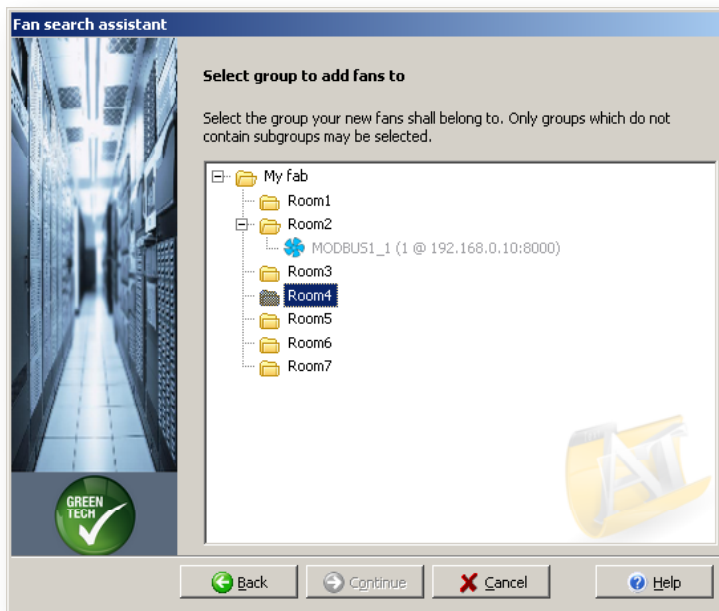
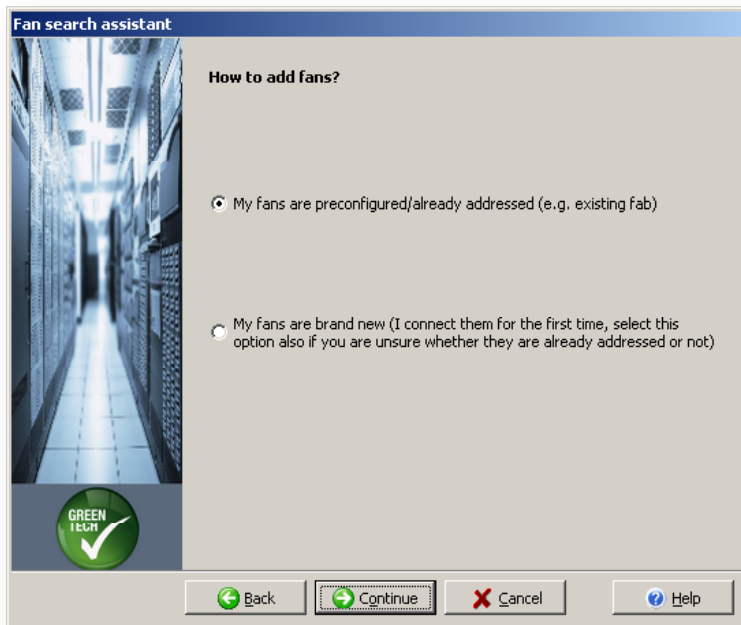

Fig. 3-13 Selecting a logical group
Fig. 3-14 Options for setting up multiple fans.
Click Continue. The dialogue for selecting a logical group shown under item 6 in Fig. 3-13 appears. Here, you have to select the logical group to which the fans added to the installation during this pass are to be assigned. You can only select groups that do not have any additional subgroups. If you want to split your fans up into different groups, the rest of the process allows you to do exactly that. After selecting a group, click Continue and, depending on the option selected previously (see Fig. 3-14), continue with Chapter 3.3.2 (first option) or Chapter 3.3.3 (second option). After reading the corresponding subchapter, continue with item 8.
If you select the first option and click Continue, the screen for selecting a logical group (Fig. 3-13) from item 6 appears again, and the adding process restarts from the beginning. To finish adding fans, select the second option and click Continue.